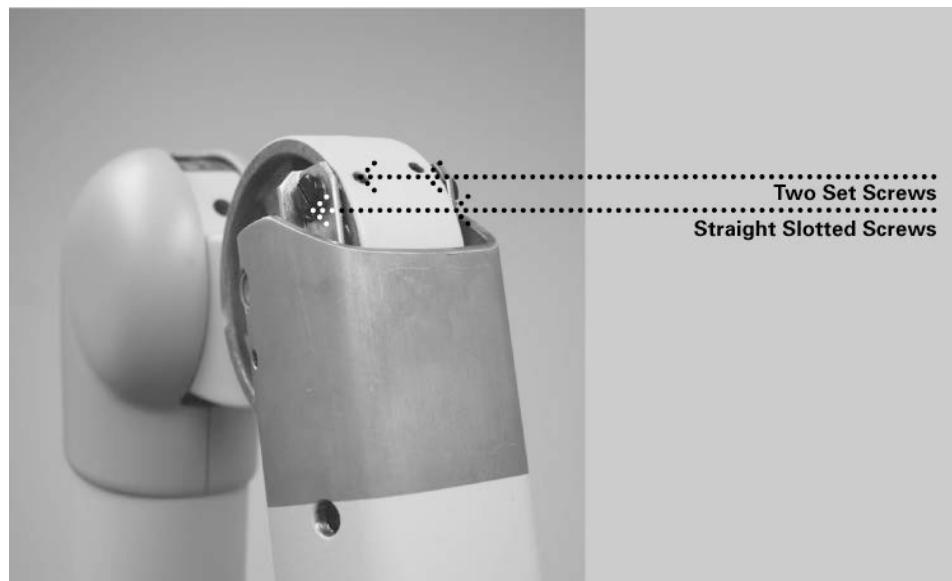

Figure 96
Follow this procedure ONLY if the yoke assembly does not stop on its own and makes contact with the horizontal arm. Refer to *Figure 96* while following the procedures below.
1. Loosen the two set screws highlighted in *Figure 96*, but do not remove them completely.
2. Loosen the two straight-slotted screws highlighted in *Figure 96* (the figure shows only one of the two screws – the other is located on the opposite side of the arm), but do not remove them completely.